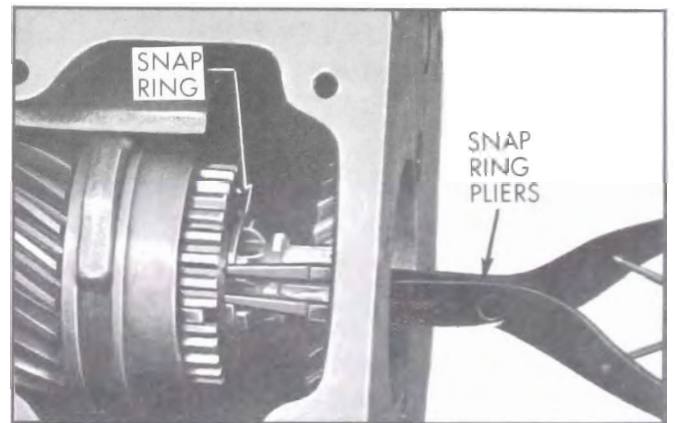

Figure 4-18—Removing Snap Ring from Front of Main Shaft
8. Remove front bronze blocking ring from synchronizer assembly. Remove snap ring from front of main shaft using suitable snap ring pliers. See Figure 4-18.